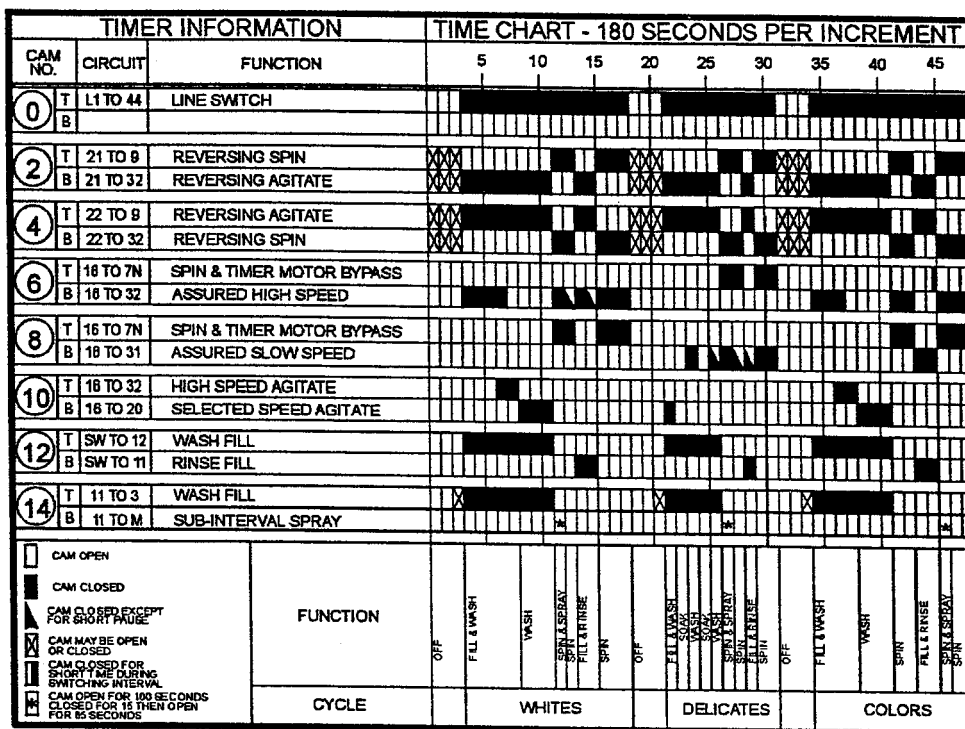

Figure 8-2
*Cam 0 shows the switch arm closed, making contact between Line 1 and wire 44 from increments 4 through 18. This circuit is the cam controlled ON/OFF switch in the timer and at increment 19 it opens, shutting the machine off (Figure 8-2).*